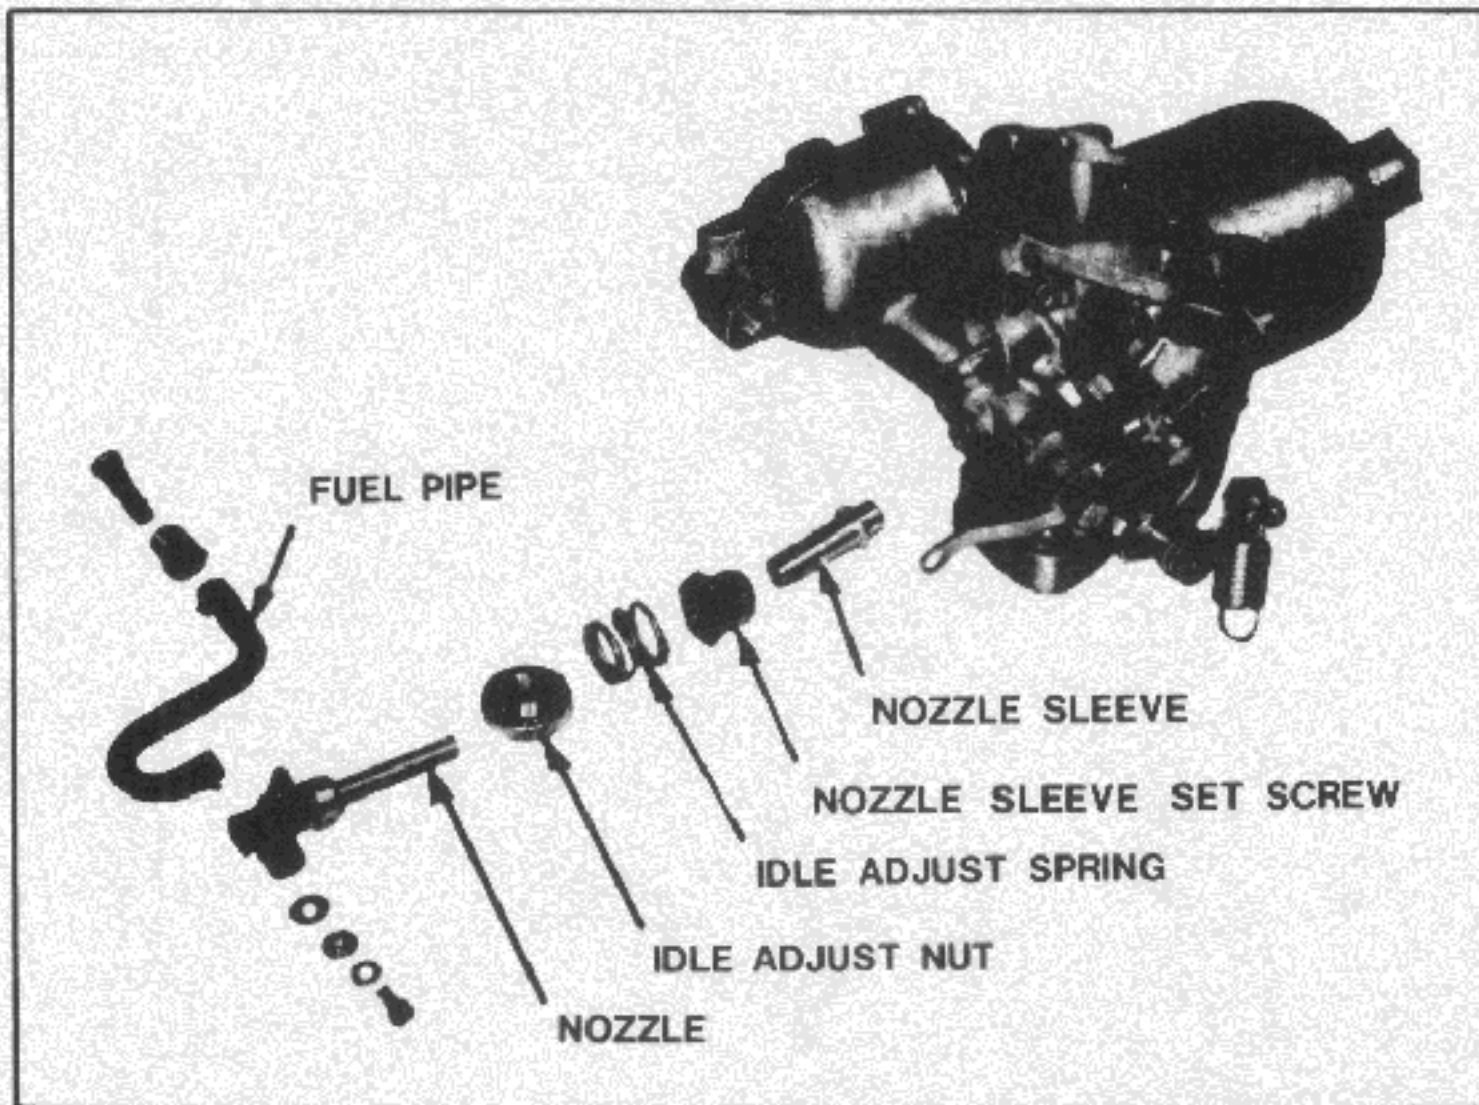

Fig. EF-78 Disassembly of nozzle
(2) Next, remove the idling adjusting nut and idling adjusting spring.
(3) The nozzle sleeve can be removed by removing the nozzle sleeve set screw. (Recommend this not be disassembled unless absolutely necessary.) Exploded view of disassembled parts is shown in Fig. EF-78.